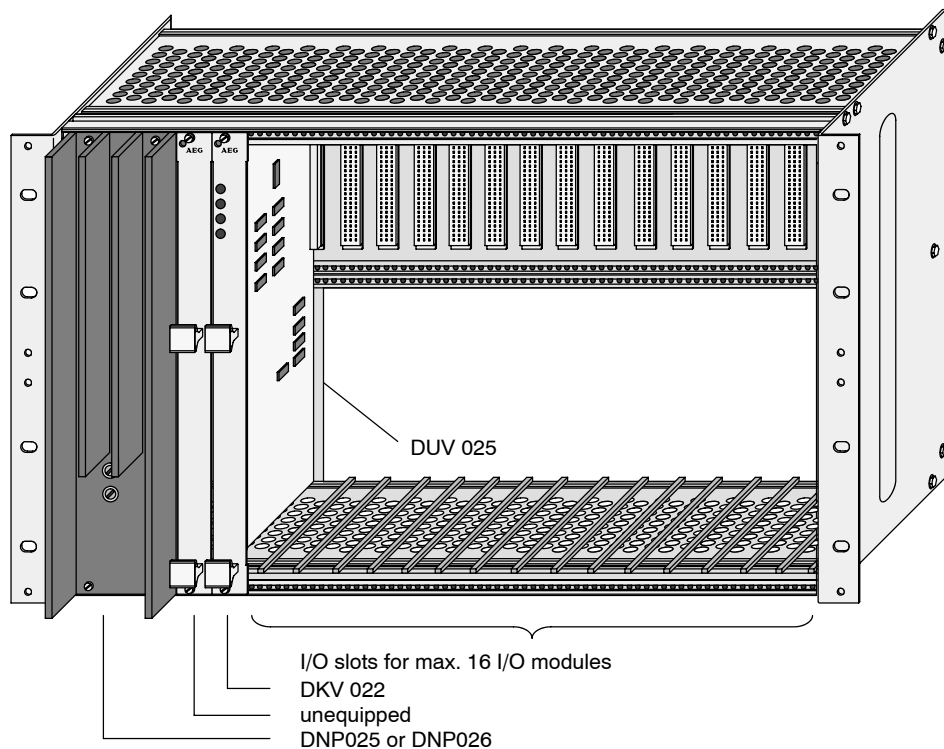

Figure 15 Equipping the DTA 025 Secondary Subrack
- ❑ DTA 025 secondary subrack with DNP 025 or DNP 026 power supply, DUV 025 connecting printed board, PEAB network DKV 022, PEAB monitoring DKU 022 (optional, cf. 3.5) and max. 16 I/O modules with **rear connection** (see Figure 15). DNP, DUV and DKV are generally not required with the second subrack of a pair.